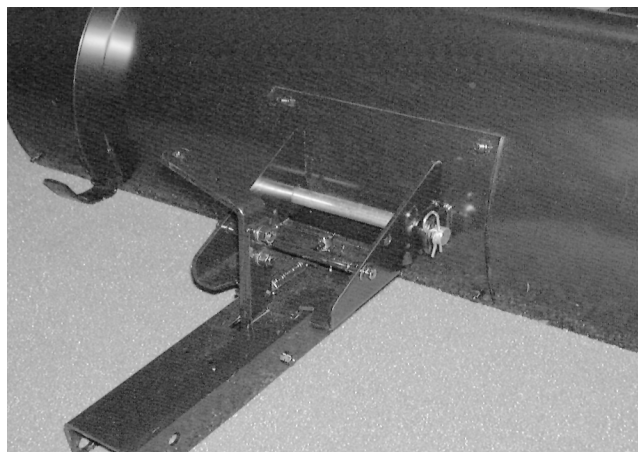

FIGURE 4.
4. Align the holes in the pivot plate with the holes in the welded brackets. Insert the pivot shaft through the holes and secure with hairpin clips. See figure 4.